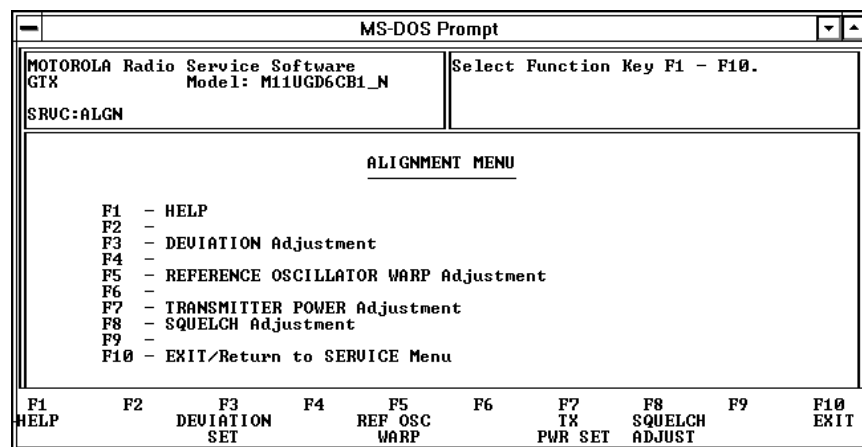

Figure 11.1 – Alignment Menu
6. From the "Main Menu", press F2, "SERVICE Alignment, Service Aids, Board Replacement". The "Alignment Menu" is shown in Figure 11.1.